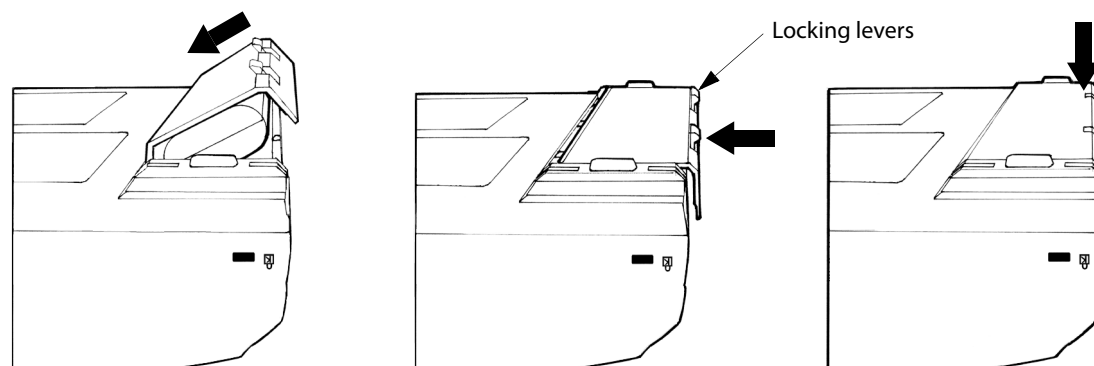

Figure 4.2 Insert Battery into System
- 2 Place the battery into the battery compartment, at a slight angle. See Figure 4.2.